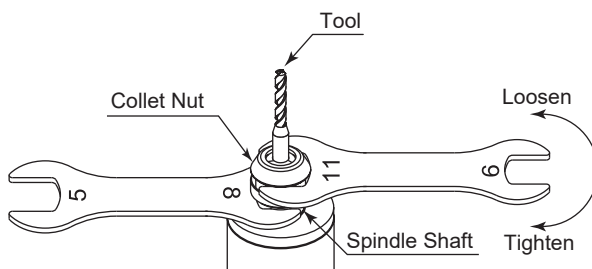

Fig. 6
- ② Insert the tool into the collet, and attach the tool and the collet nut to the spindle shaft. (Fig. 6)
- ③ Place the provided 8 mm wrench on the wrench groove of the spindle shaft and hold it in place.
- ④ Place the provided 11 mm wrench on the collet nut and turn the collet nut clockwise to secure the tool. 『Reference tightening torque: 6 N·m (CHA-3.0/3.175/4.0 use)』